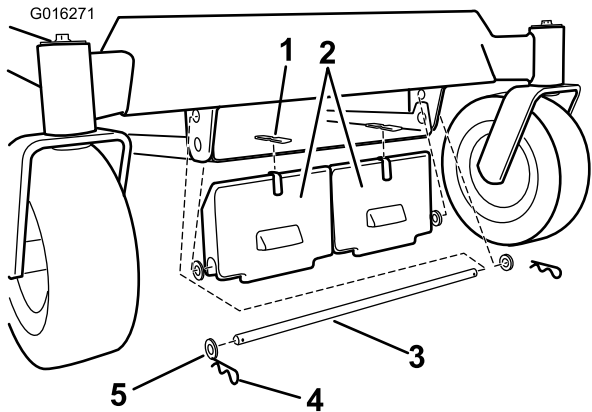

Figure 1
1. Install an adhesive bumper to the weight (Figure 1).
2. Install the weight to the front of the machine frame. Secure the weight with a rod, four washers, and two hair pins as shown in Figure 1.